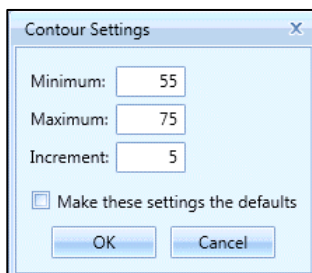

Figure 5-21 Contour Settings Dialog
3. The *Contour Settings* dialog is displayed (Figure 5-21).